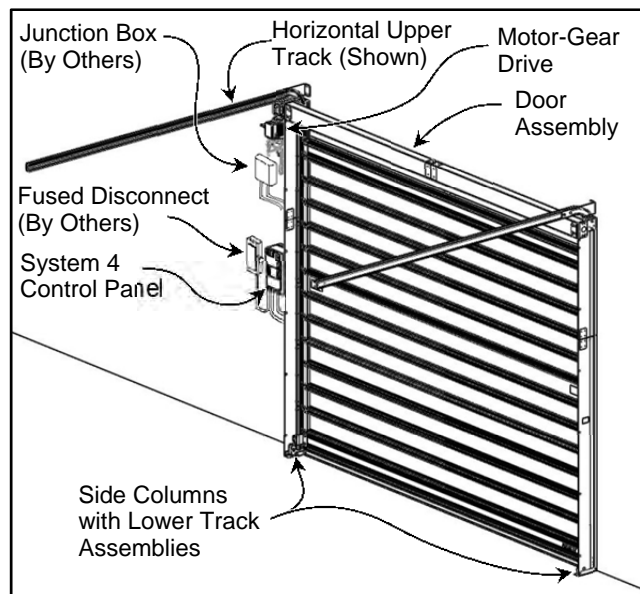

Figure 59
3. To ensure the correct parts are shipped, please include the serial number of your door with the order. The serial number is located on the front of both the left and right side column covers @ about eye level, on the drive motor gearbox in the head assembly, on the door of the System 4 Control Panel. All these serial numbers should match. (See Figure 59)